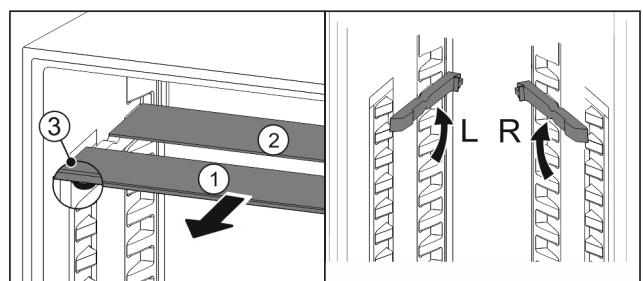

Fig. 124
- ▶ Pull the glass panels out Fig. 124 (1) from the front, one at a time.
- ▶ The glass panel *Fig. 124 (1)* and trim strip are at the front.
- ▶ The stops *Fig. 124 (3)* point down.